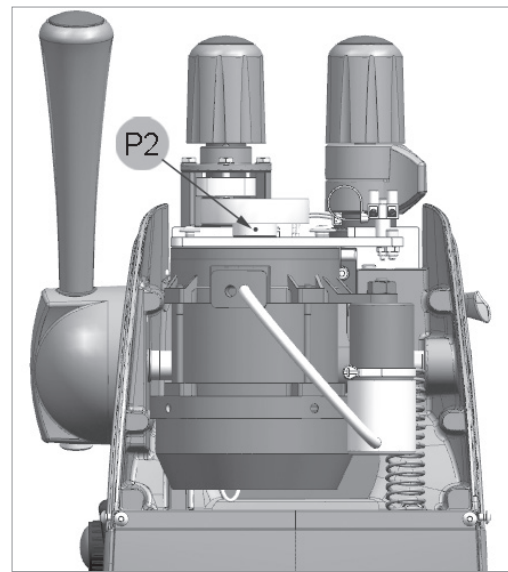

Fig. 74
- 6) Loosen the grub screw (P2) securing the motor pulley and pull upwards to remove (Fig. 74).